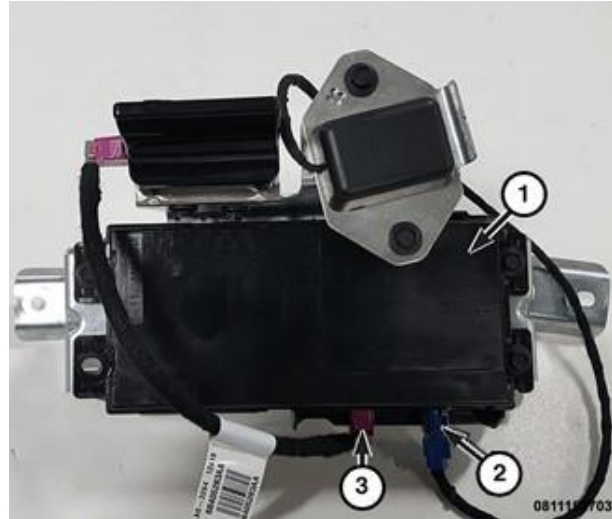

Figure 19 – Telematics Module
27. If equipped, disconnect the GPS antenna cable (2) from the telematics module (1) (Figure 19).
28. If equipped, disconnect the LTE2 antenna cable (3) from the telematics module (1) (Figure 19).
32. If equipped, connect the LTE2 antenna cable (3) to the telematics module (1) (Figure 19).
33. If equipped, connect the GPS antenna cable (2) to the telematics module (1) (Figure 19).